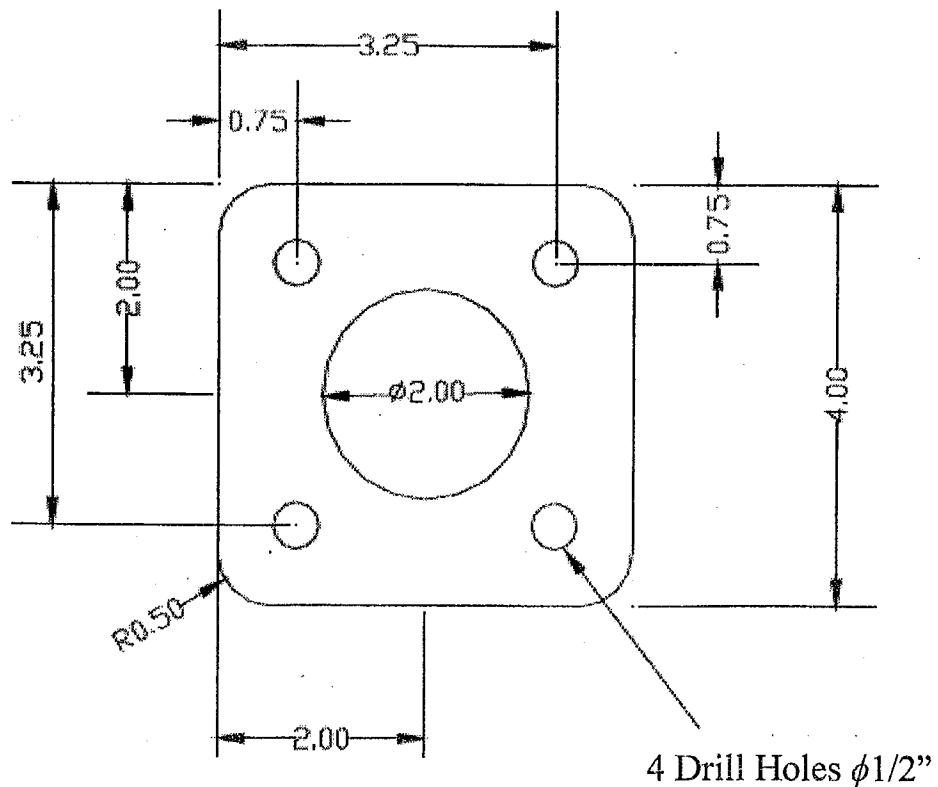

Fig.Q03
- c. Write G-Code CNC program for the part shown in Fig.Q03. List of G-Codes and M-Codes are given at the end of the question paper. All dimensions are in inches. Thickness of the part is 0.5 inch. Propose a suitable material for the workpiece and diameters of the tools used. Select a work coordinate system. Write down any other assumed data if any. (80 mark)